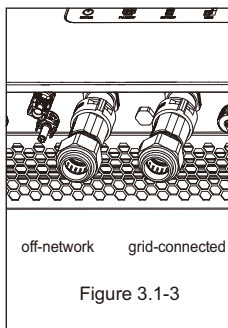

Figure 3.1-3
- Grid-connected and off-grid connections: Make sure that the grid-connected side is connected to the grid, the off-grid side is connected to the load polarity correctly, and the L line and N line are connected in sequence, see Figure 3.1-3.